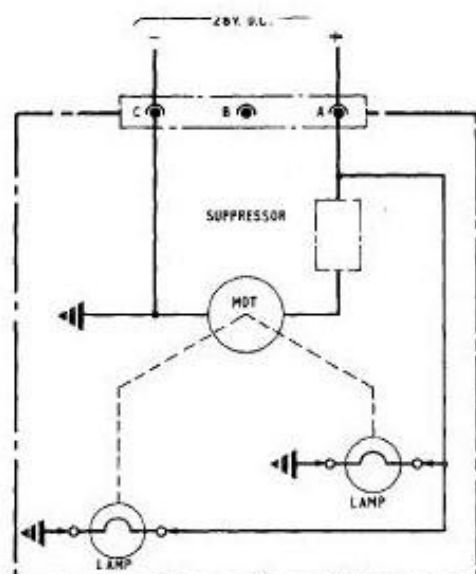

Fig. 3. Circuit diagram
8. Electrical connection to the lamp is made using a three pole CANNON connector (AN 3102A-10SL-3P) of which only two pins are used, pin A positive, pin B negative, as shown in the circuit diagram in fig. 3. The motor is connected via a suppressor directly across the supply, the lamps are